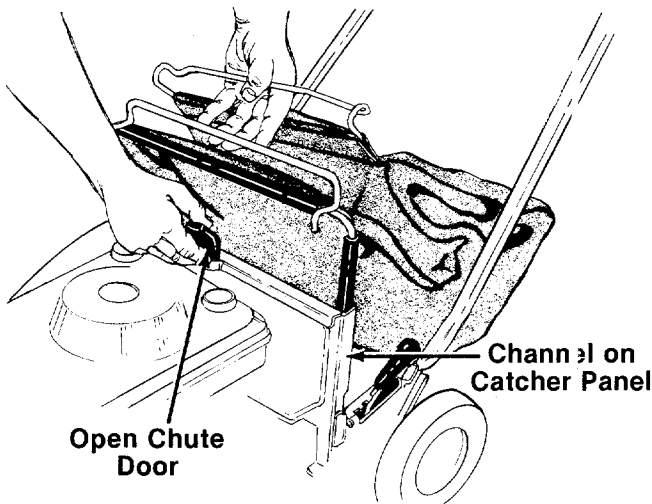

FIGURE 19.
1. Hold the chute door on the catcher panel open as shown in figure 19.